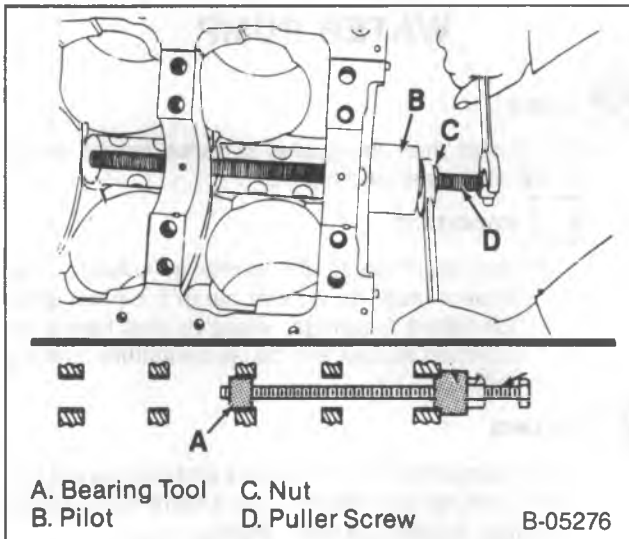

Figure 17—Replacing the Inner Camshaft Bearings
Disassemble (Figures 17 and 18)
2. Inner camshaft bearings. Use J 6098-01 and J 6098-10 (figure 17).
Assemble (Figures 17 and 18)
3. Inner camshaft bearings. Use J 6098-01 and J 6098-10 (figure 17).